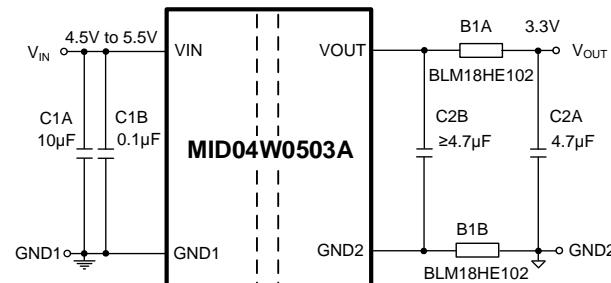

Figure 2: Recommended EMI Schematic
8) See Figure 2 on page 9 and Figure 3 on page 10 for details on the EMI circuit and PCB layout.
There are two main techniques used for PCB layout. Figure 2 and Figure 3 on page 10 show examples of layouts that are CISPR 32 Class B certified. The first technique to reduce EMI is to build a low-ESL Y-capacitor using a 4-layer PCB layout to filter high-frequency noise on the secondary side. The Y-capacitor is formed with the two overlapping middle layers. Mid-layer 1 is the PGND1 copper plane, which forms the Y-capacitor's top plate. Mid-layer 2 is the ground after the ferrite bead (GND2), which forms the Y-capacitor's bottom plate. More overlap in these layers provides a larger Y-capacitor value, which further reduces EMI. The second technique to reduce EMI is to use stitching vias
Aside from the two PCB layout techniques described above, a pair of ferrite beads are required to form a CLC structure filter (see Figure 2). Place this filter as close to VOUT and PGND2 as possible. The capacitor closest to the IC (C2B) should be  $\geq 4.7\mu\text{F}$  to ensure a stable output. Do not place large copper areas on the secondary side pins, as this can increase switching noise and EMI. Connect SGND2 and PGND2 using a thin trace.